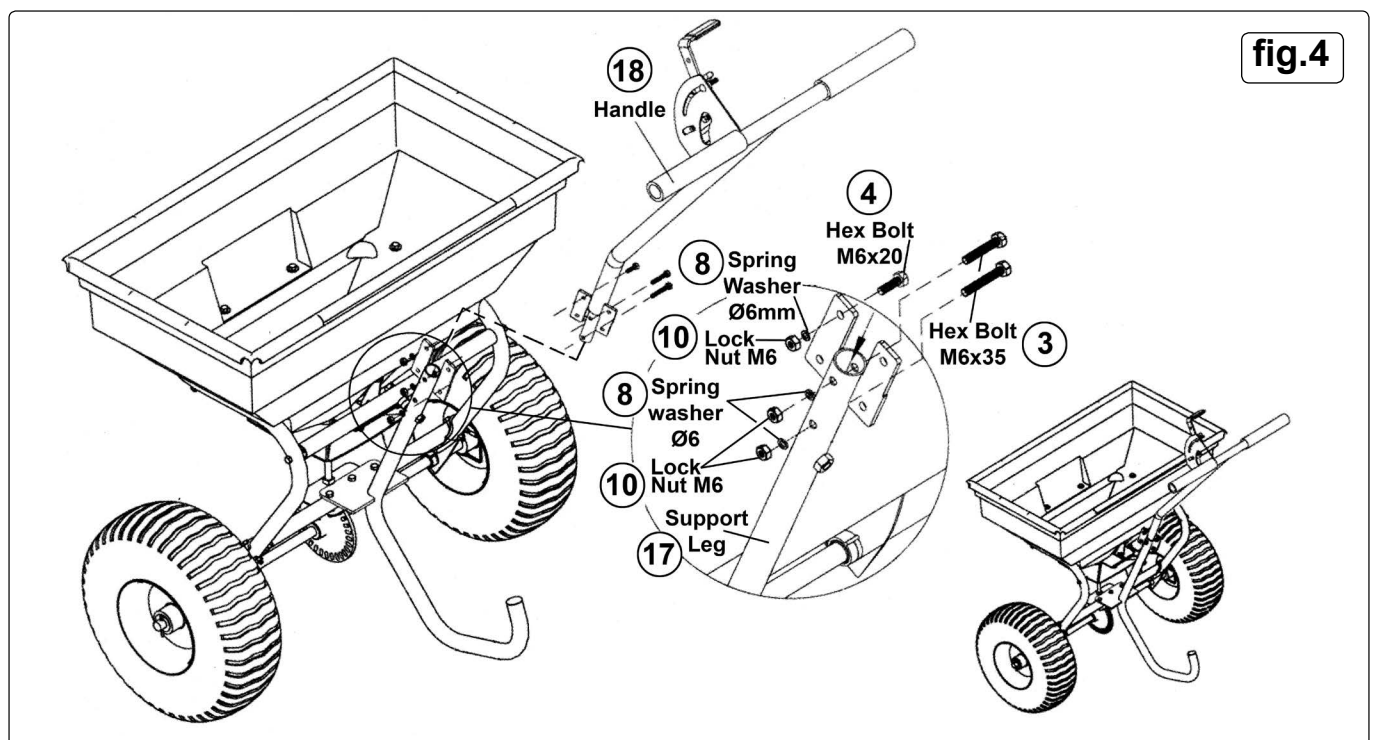

fig.4
**4.4 FIXING THE HANDLE TO THE SUPPORT LEG. (refer to fig.4)**